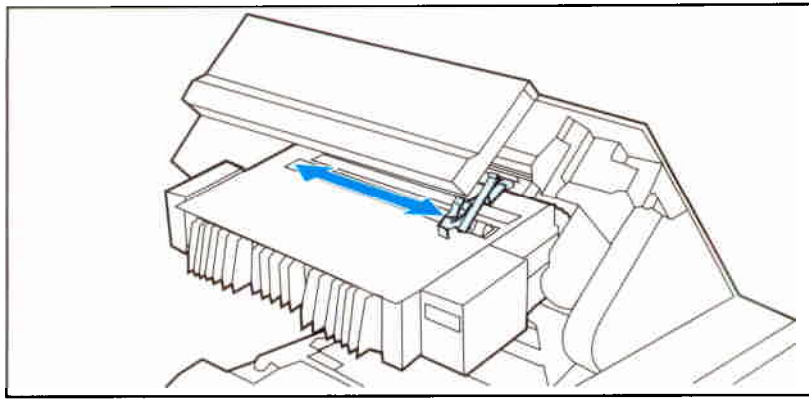

Figure 7-35      Cleaning the Laser/Scanner Window
3. The Print Drum may not be fully discharged during the writing process, due to accumulated toner on the Laser/Scanner assembly window. This reduces the laser power that discharges the Print Drum, causing faint print in all colors. Lower the Print Drum and clean the optics window with the tool provided. See Figure 7-35 for location of the laser window.